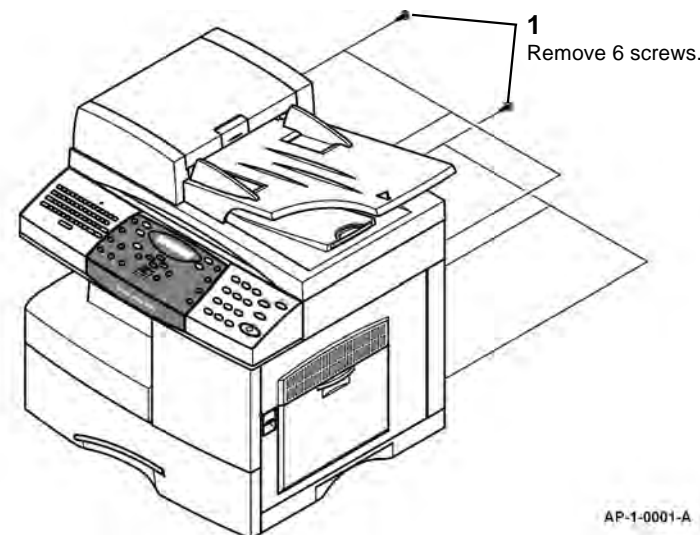

Figure 1 Screw removal
NOTE: The M20F and 4118 procedures are the same. The M20F is shown in Figure 1 and Figure 2.
1. Remove the 6 screws securing the MEA unit - rear cover, Figure 1.